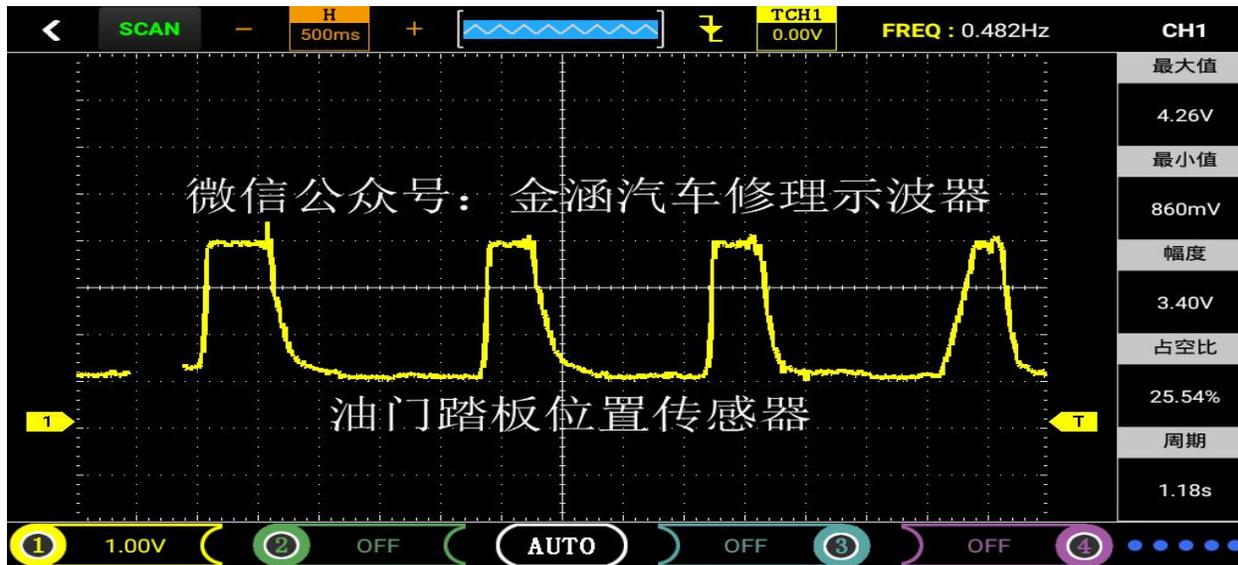

Figure 18
③ Connect the probe to the oscilloscope CH1 and set the probe in 1X position, and then ground it to signal ground or ground.
④ As the oscilloscope "accelerator pedal" function has been set by default (probe file 1X, time base file 500ms), just by connecting the probe to the corresponding signal can be intuitively displayed waveform, as shown in Figure 18.